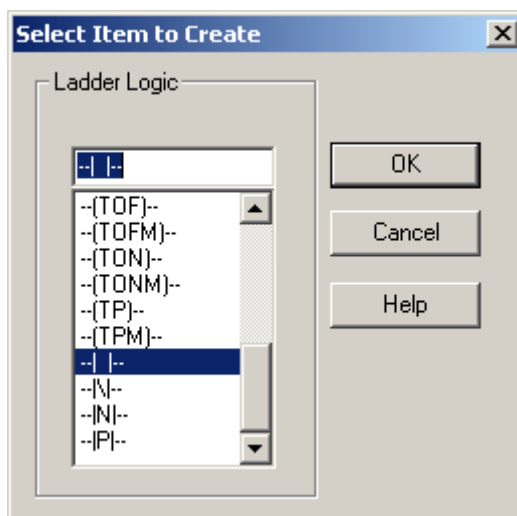

Figure 4-13 Select Item to Create dialog
1. Click the **[New Ladder Logic Element]** button on the **Line Connection** toolbar.  The Select Item to Create dialog displays. See Figure 4-13.